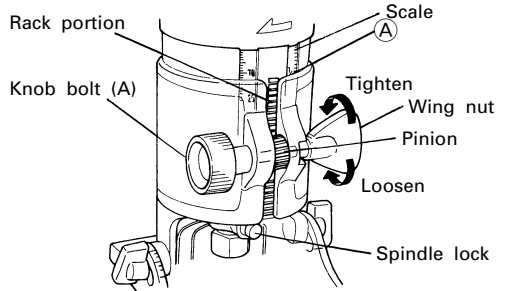

Fig. 4
- (3) Read the value indicated by the top of the base ass'y. (A in Fig. 4)
- (4) Move the base ass'y to the cutting depth.
- (5) After moving the base ass'y to the cutting depth, tighten wing nut securely. (Fig. 4)